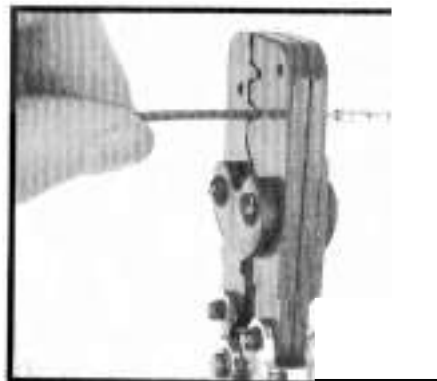

Figure 6-24. - Terminal Over Wire
3. Hand crimp the core wings first and then the insulation wings (Figure 6-24.).